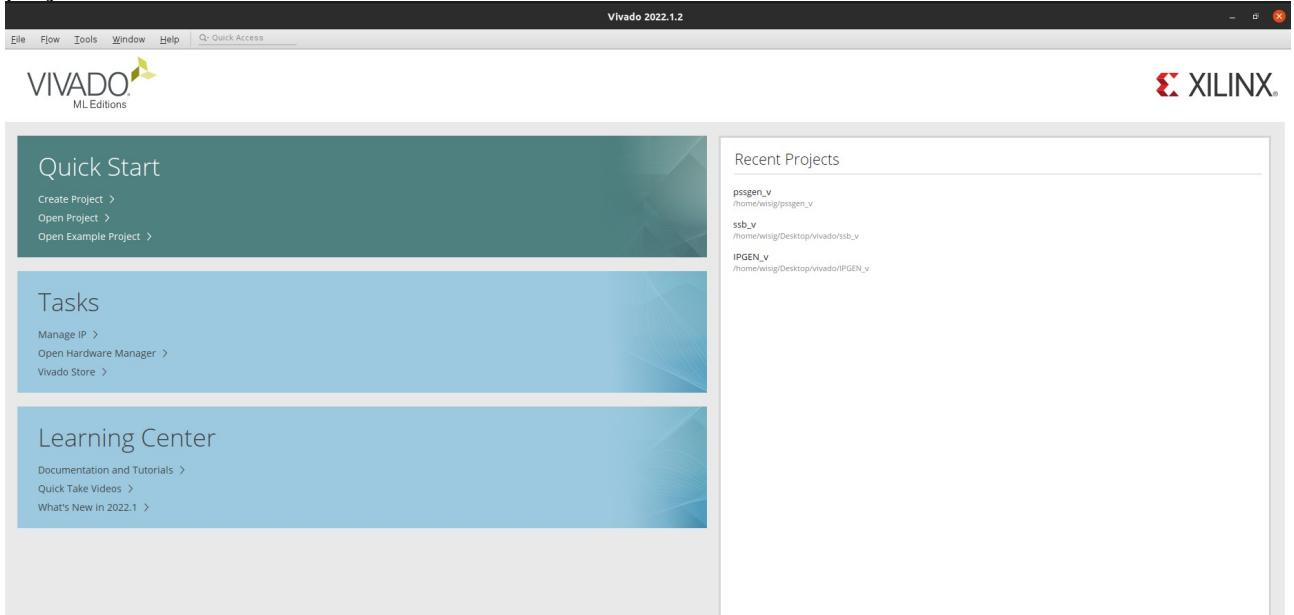

figure.1
1. Open Vivado then the window on figure 1 will be visible. Click create project and click on create project.